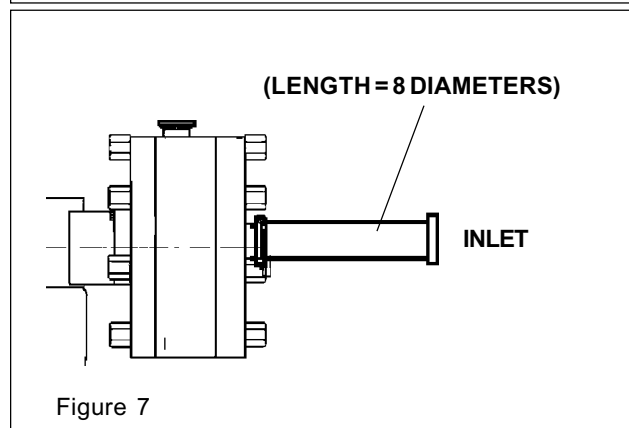

Figure 7
*Maintain a straight length of pipe at least 8 diameters long to pump inlet. (Figure 7). To avoid up and down loops which will trap air, use as few as possible elbows, valves or other types of restriction.